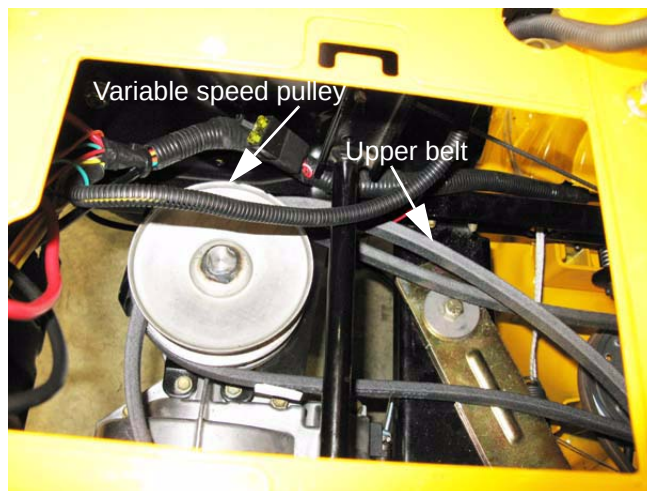

Figure 6.62
- 4d. The slack created will allow the upper belt to slip easily out of the top sheave of the variable speed pulley and off of the transmission input pulley. See Figure 6.62.